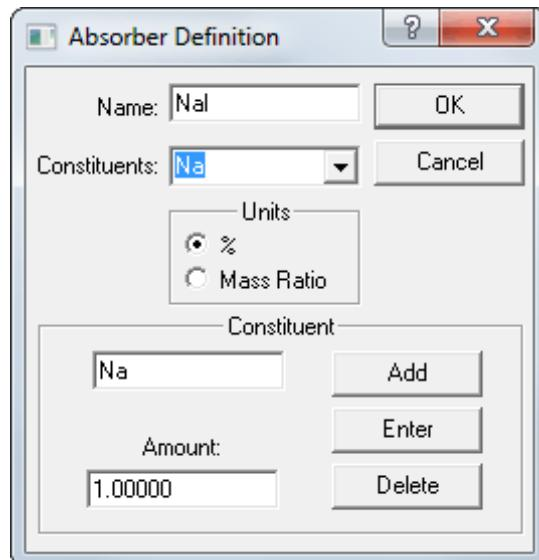

Figure 148. Defining a New Absorber.
- 2) Click **Add**. This will open the Absorber Definition dialog (Fig. 148).
- In the **Constituent** section, enter Na and an amount of 1, then click **Add**. The **Constituent** dropdown in the upper part of the dialog will now list Na as a component of NaI (Fig. 148).